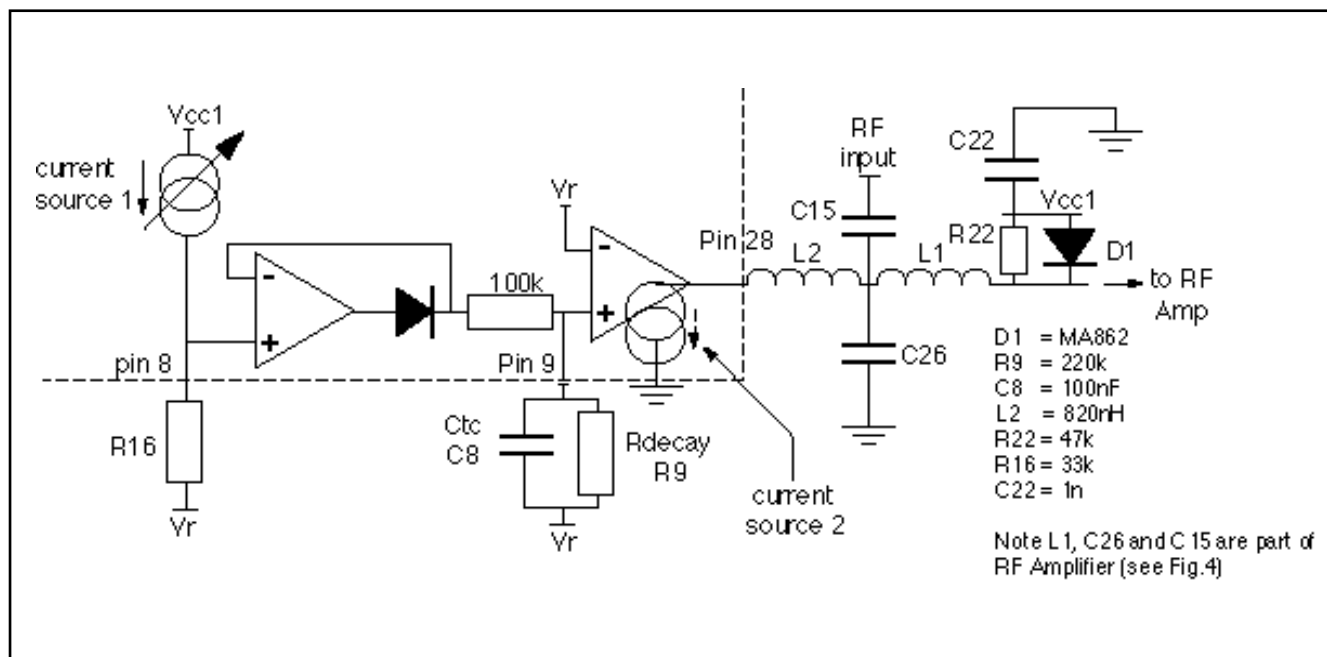
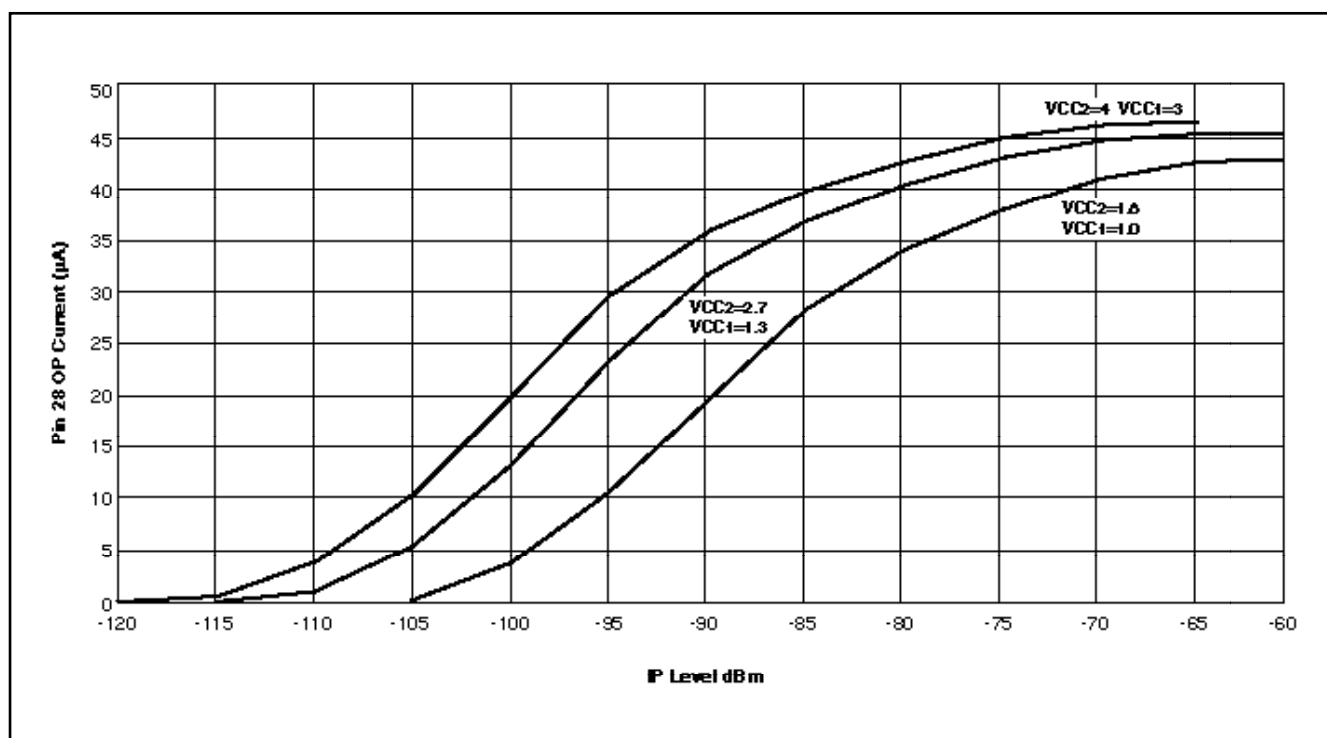

Fig.6 AGC Schematic
Fig.7 Audio AGC current vs. IP power at 25°C
4. L2 is used in the Audio AGC circuit (see Fig.6). For the characteristics of the Audio AGC current source see figure 7. If the Audio AGC is not required then the current source (Pin 28) may be disabled by connecting